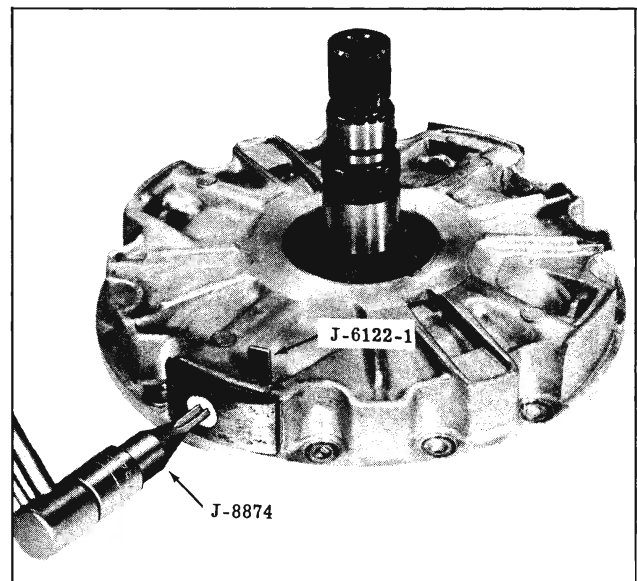

Fig. 3-67 Installing Exhaust Valve Cover
2. Install Exhaust Valve Retaining Tool J-6122-1. (Fig. 3-67)
3. Install torus cover exhaust valve gasket and cover. Torque the retaining screw 20 to 25 ft. lbs. using Tool J-8874. (Fig. 3-67)